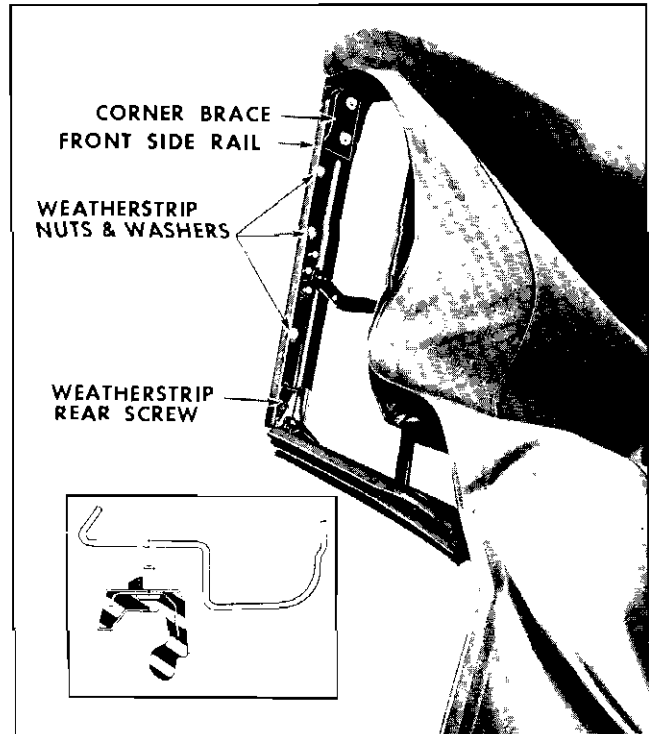

Fig. 7-16 Side Roof Rail Weatherstrips
4. Remove weatherstrip attaching nuts and washers and remove weatherstrips. Several attaching nuts and washers are shown in Fig. 7-16.
2. Apply ribbon of body caulking compound along entire length of attaching surface on each side roof rail weatherstrip section just outboard of integral studs and reverse removal procedure (Fig. 7-16).